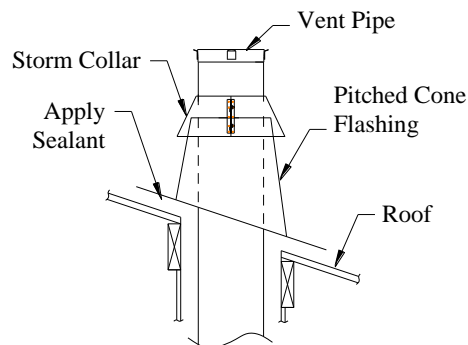

Fig 18. (Pitched Cone Flashing)
5. Install Vent pipe through the Tall Cone. Refer to corresponding section for instructions on installing the Storm Collar and Rain Cap (See Fig. 18).